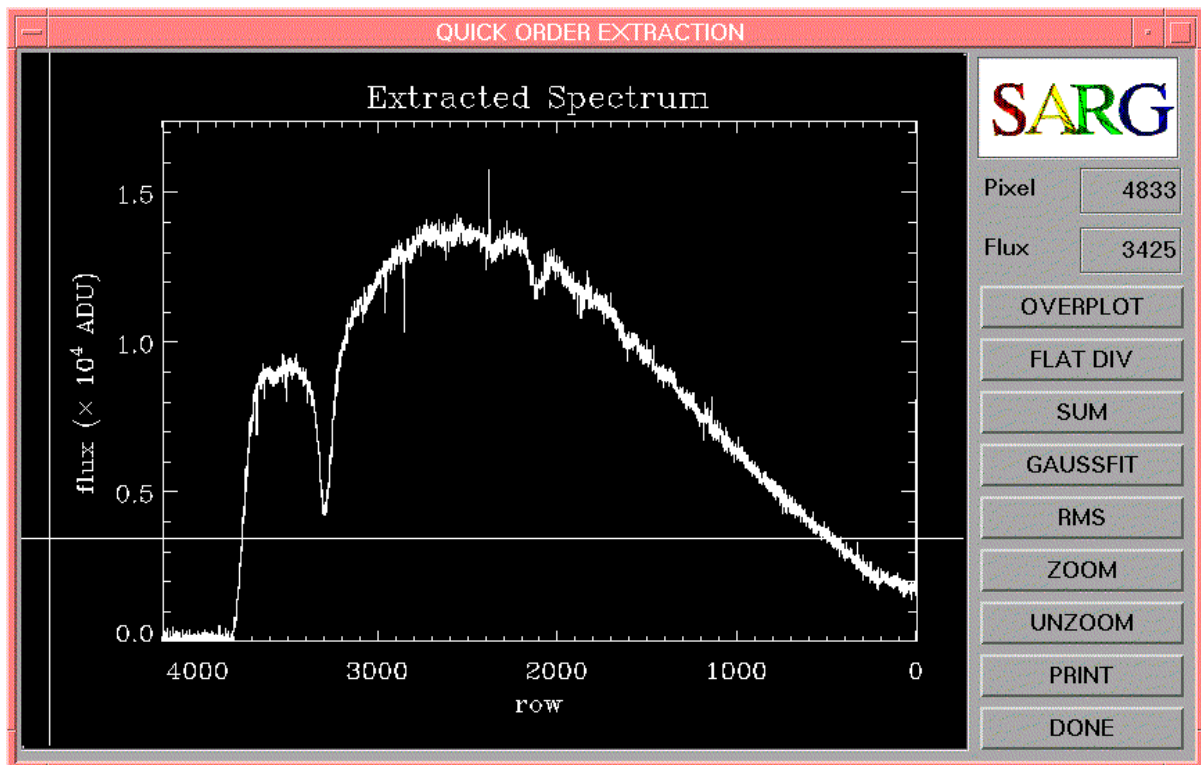

Figure 9 – An example of spectrum extracted. The line at pixel number 3300 is the H α while the line at pixel number 2100 is the HeI6678
The first operation to do is to select the order of the spectrum to extract. An informational window saying “Select the order to extract” will pop up after answering “Yes”. To select the order the observer has to position the cursor in the full resolution image graphic window and click once on the order to extract. A window with the title “QUICK ORDER EXTRACTION” (fig. 9) will be created. The window contains a graphic area and a series of buttons. The functions of the
buttons will be described later. Note that at this moment all the buttons but the one labelled DONE are not sensitive to mouse actions. In the graphic area is shown an horizontal cut of the echelle spectrum centered around the selected order. If the binning is 1×1 only one order will be displayed, when the binning in the spatial (X) direction is greater than 1 more orders will be shown, with the central one being the one to extract. The procedure will ask then to select a lower and an upper limit in the spatial direction (along columns). These limits define a window inside which the echelle order is traced and extracted. Five points to the right of this window and five points to the left are also used to estimate the background to subtract during the extraction of the order. Once the two limits are set the echelle order is traced and plotted in the graphic area. The tracing procedure looks for the maximum in the previously selected window and follows it through the entire CCD every ten pixels along the dispersion direction. The trace of the echelle order has to be fitted and the procedure again asks to select an upper and a lower limit between which it performs a polynomial fit. The extracted spectrum is plotted in the graphic area (fig. 9) .
The SARG telemetry window allows the observer to know in real time the configuration of the spectrograph and of the detector. The user can retrieve information on the status of a single element or parameter, a group of them. The Telemetry window is divided in seven different subwindows as shown in figure 9 and listed below.